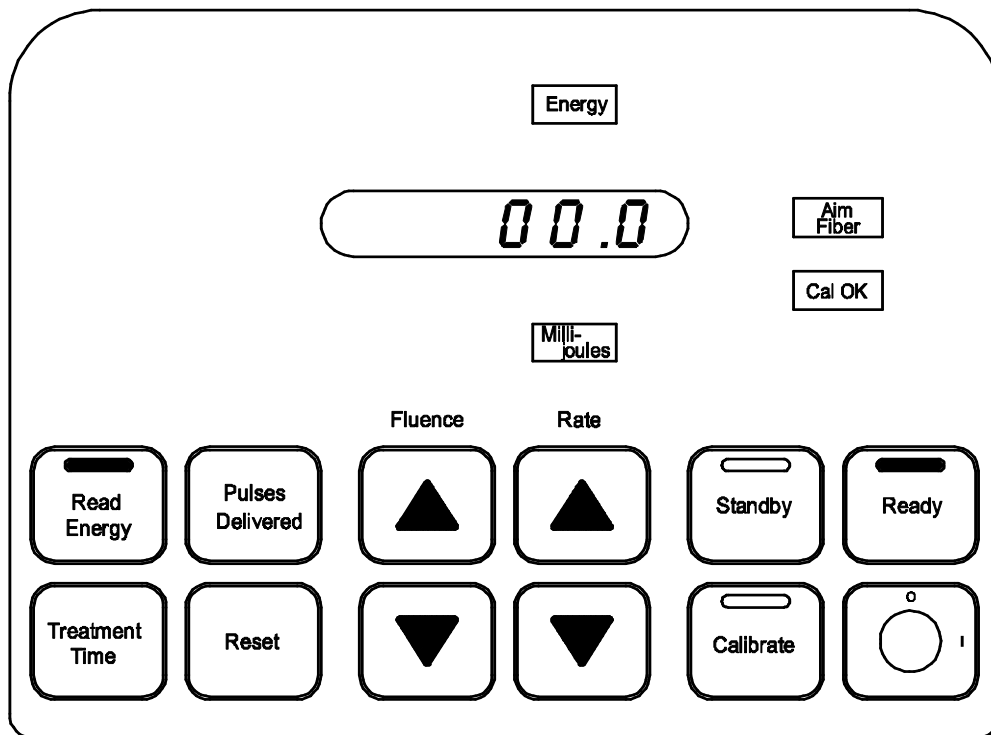

Figure 18
11. Pressing the **Read Energy** button causes the fiber output energy to be visible in the display window. To read the energy coming from the fiber, aim the fiber at the calibration detector and depress the footswitch. Figure 18)